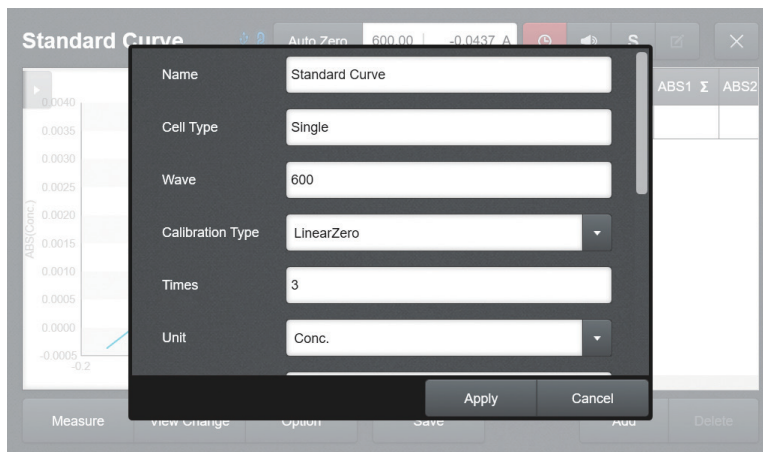

Fig. 4.7
1. [Fig. 4.7] Select the unit item from the list on the settings screen.